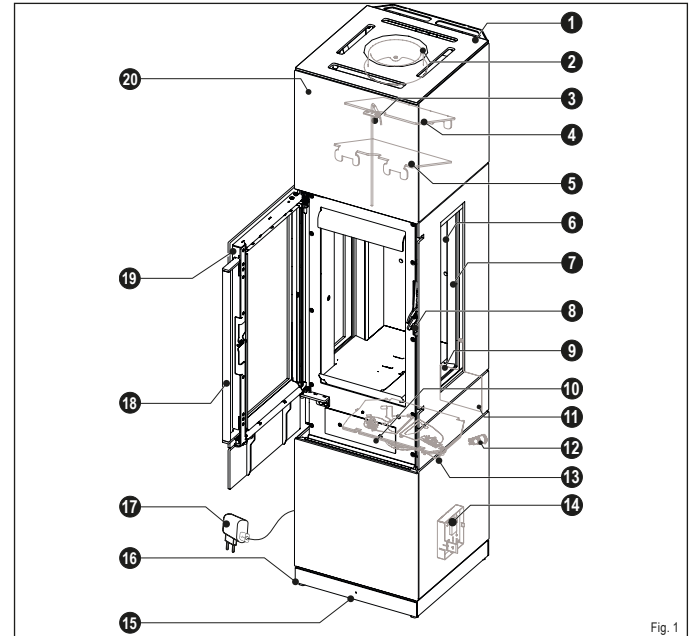

Fig. 1
- The firebricks (Fig. 1, No. 6) are made from vermiculite (fireproof mineral).
- The firebox door (Fig. 1, No. 19) of the stove is self-closing, i.e. the firebox door handle (Fig. 1, No. 18) must be held when opening the firebox door (e.g. when adding fuel).
- When the firebox door handle is released, it will close and catch in the door latch (Fig. 1, No. 8) and automatically seal the firebox.
- The iQ technology (Fig. 1, No. 3; 12-15) automatically controls the optimal combustion air setting and firebox temperature to ensure complete, low-emission combustion.
- The stove consists of a steel body (Fig. 1, No. 20) and depending on the model with steel, ceramic or soapstone cladding to increase thermal storage.
- The stove can be levelled with the adjusting screws (Figure 1, No. 16) to compensate for uneven installation sites.
- The ash drawer (Fig. 1, No. 10) collects ashes and must be emptied regularly. (see chapter "7.3.3 Cleaning the ash drawer and fire grate")
- The On/Off switch (Fig. 1, Pos. 12) is used to switch the controller on and off.
- The type label (Fig. 1, No. 11) is behind the stove and can be folded out.
- The mains plug and the USB-C cable (Fig. 1, No. 17) connect the iQ technology to the mains.